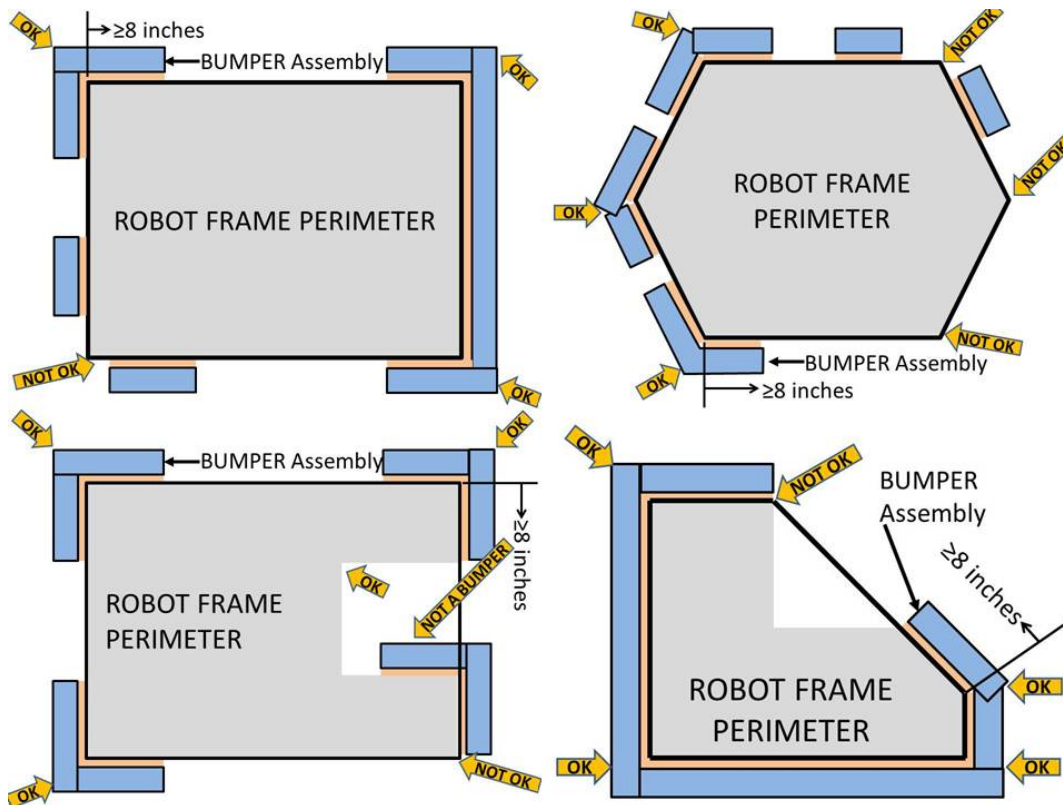
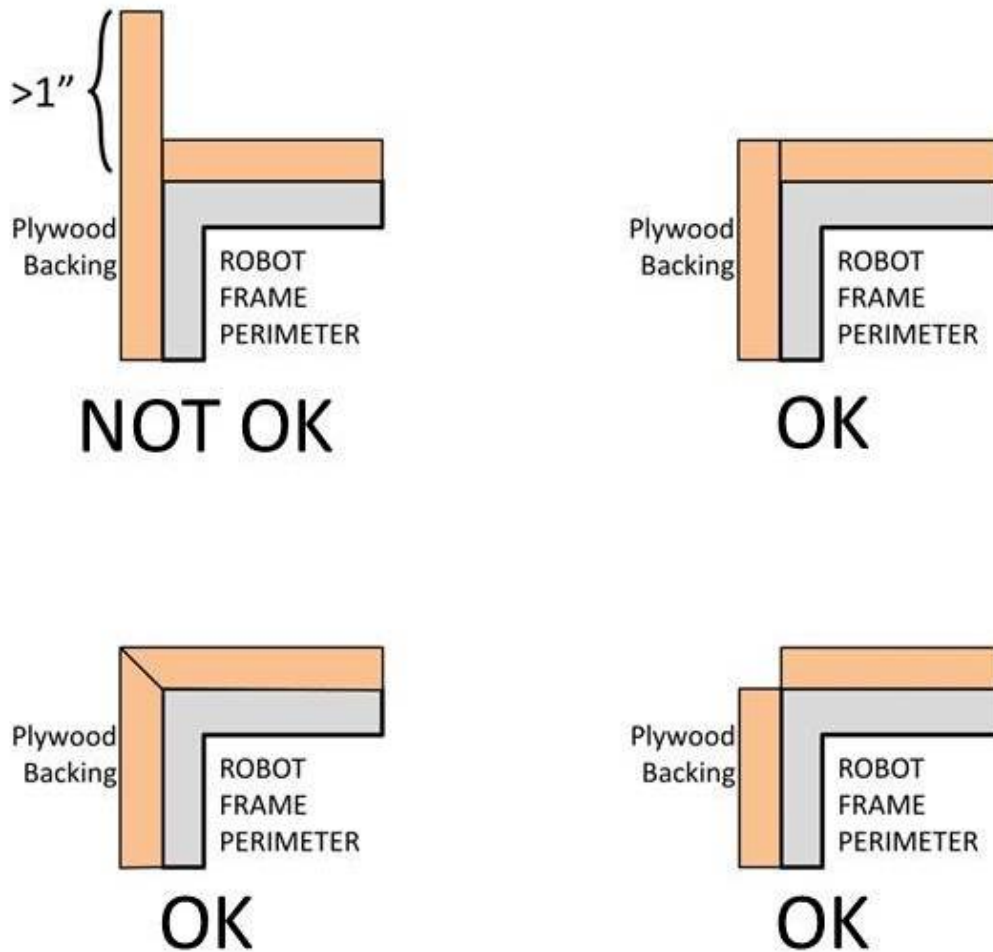
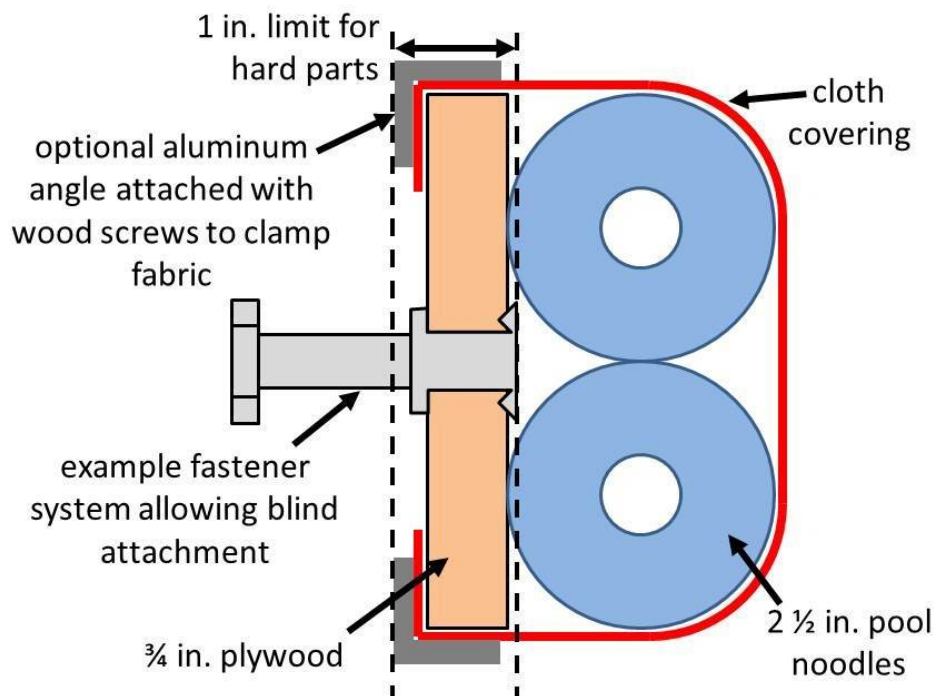

Figure 4-2: BUMPER Corner Examples
Figure 4-3: Hard Parts of BUMPER Corners
Figure 4-4: BUMPER Cross Section
ROBOTS are required to use BUMPERS to protect all outside corners of the FRAME PERIMETER. For adequate protection, at least 8 in. of BUMPER must be placed on each side of each outside corner (see Figure 4-2).
BUMPERS must be constructed as follows (see Figure 4-4):
B. hard BUMPER parts (e.g. plywood, fasteners, etc) may not extend more than 1 in. beyond the end of the FRAME PERIMETER (see Figure 4-3 and Figure 4-4).
C. use a stacked pair of approximately 2  $\frac{1}{2}$  in. round, petal, or hex “pool noodles” (solid or hollow) as the BUMPER cushion material (see Figure 4-4). Cushion material may extend up to 2  $\frac{1}{2}$  in. beyond the end of the plywood (see Figure 4-2).